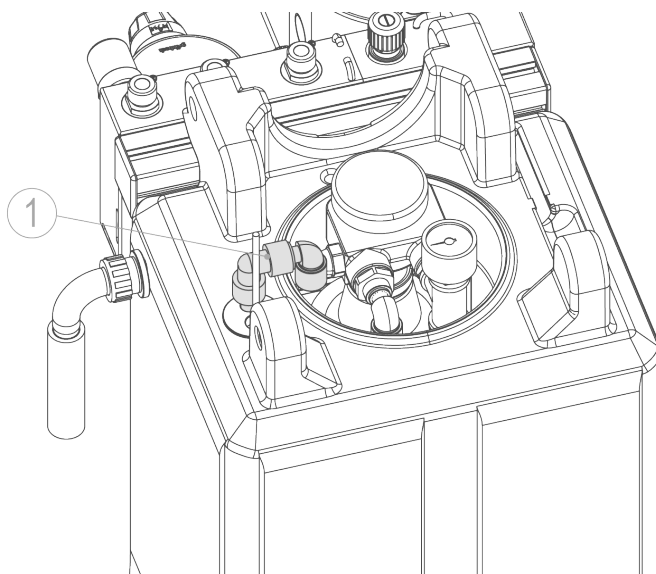

Fig. E-1: Permeate line RO 125K-TS
Disassemble the permeate line from the collection tank (refer to figs. E-1, E-2 no. 1) and route it to the drain in a separate hose.
- Reinstall permeate line on collection tank (refer to fig. E-1).